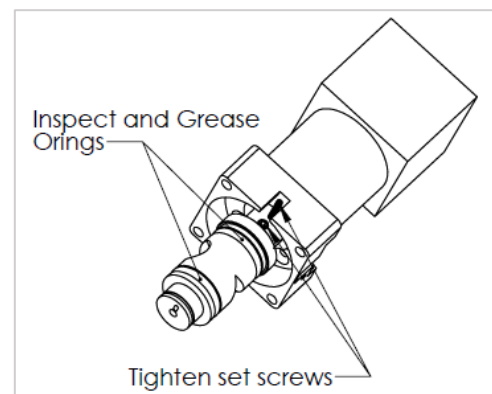

Figure 7.8
6. Once separated (as seen in Figure 7.8) inspect the O-rings for damage. Replace as necessary. The plug O-rings are Viton -115. Grease lightly with a silicone-based O-ring lubricant. Tighten the set screws that secure the motor shaft to the plug.